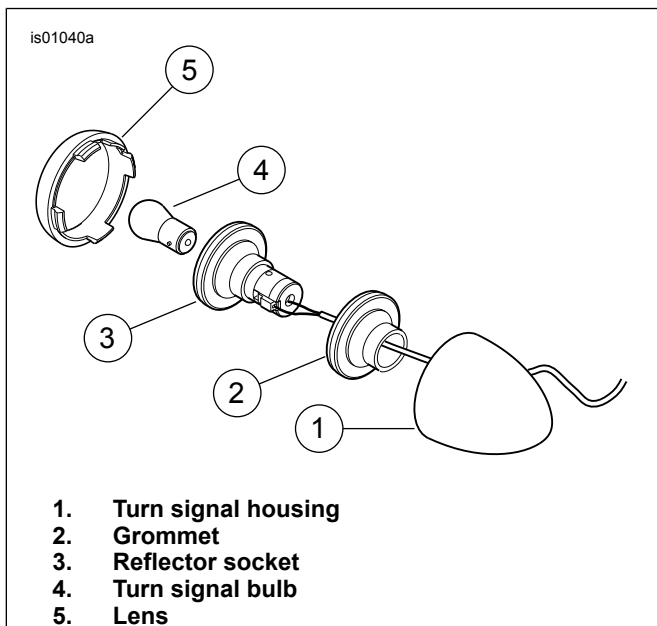

Figure 5. Front Turn Signal
- 2012 and Later Dyna Models with Turn Signal Wires Inside the Handlebar:** See Figure 5. Replace the reflector socket of the turn signal as follows:
- Remove the turn signal lens (5) and bulb (4).
- Pry the reflector socket (3) and grommet from (2) the turn signal housing (1).